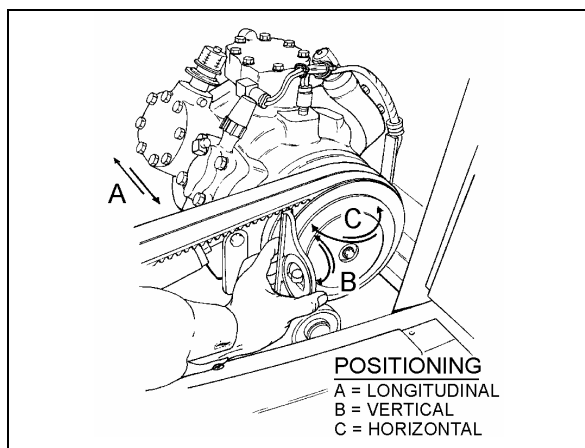

FIGURE 21: COMPRESSOR ALIGNMENT
1. Rest an extremity of a straight edge of approximately 46 inches (117 cm) against the upper part of the outer face of crankshaft pulley, positioning the other end close to the compressor clutch pulley (Figs. 21 & 22).
Rest a short "angle and level indicator" on the outer side face of the crankshaft pulley, adjust the level indicator inclination at  $0^\circ$  and check if the compressor pulley is at same angle (Fig. 21). If it is not the same, shim under the appropriate pillow block in order to obtain the correct angle.